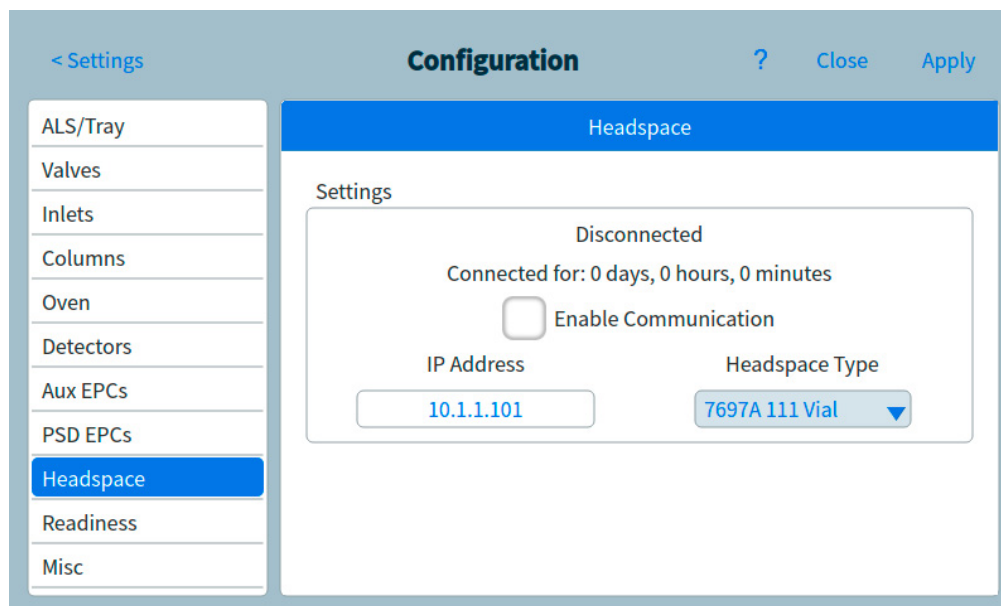

Figure 60. Headspace settings page
- 1 Select **Settings** > **Configuration** > **Headspace**. See **Figure 60**.